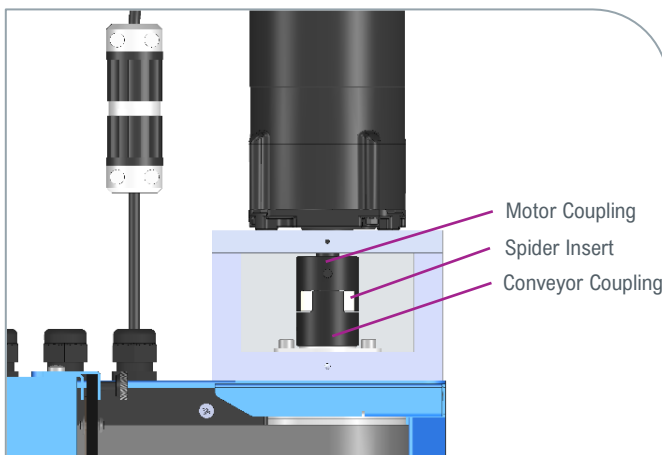

Figure 10. Install Motor Subassembly and Motor Coupling
4. Align the Motor subassembly to the conveyor by aligning the coupling on the Motor shaft to the spider insert of the Conveyor coupling (Figure 10). Spin the Conveyor roller to align the coupling jaws is needed.
7. Push the coupling on the Motor shaft in tight to the spider insert of the coupling. Tighten the 1/4-20 x 1/2" set screw to lock the position of the coupling (Figure 10).